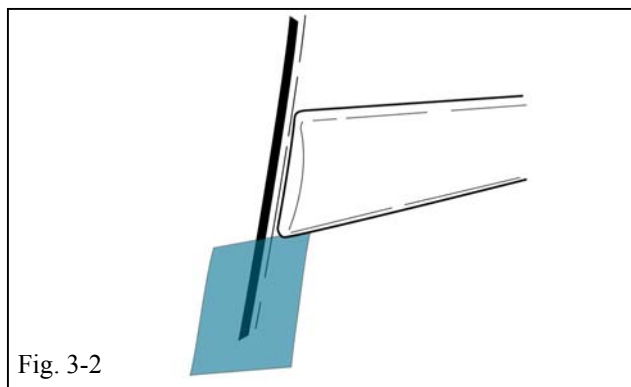
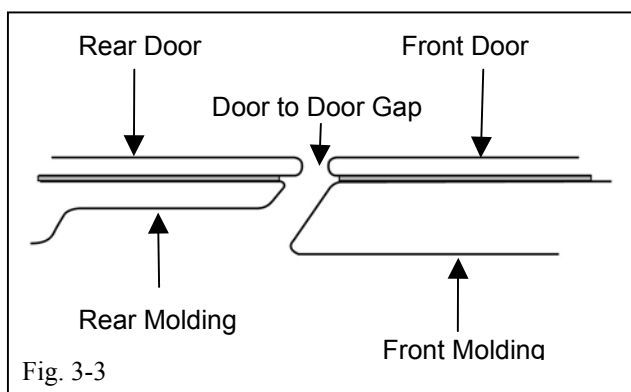
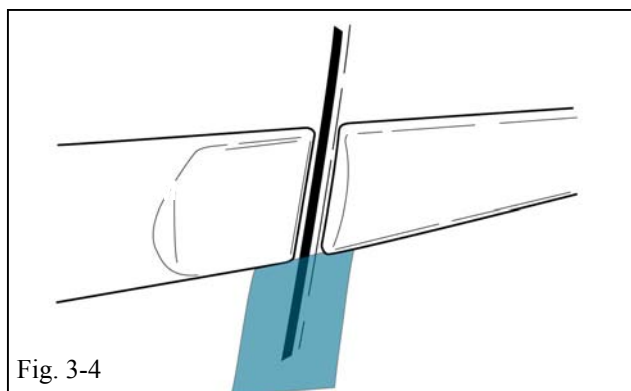

Fig. 3-2
Fig. 3-3
Fig. 3-4
- (b) Hold the molding about ½" from the surface of the front door and align the rear edge with the rear edge of the front door as shown in Fig. 3-2 & Fig. 3-3. The bottom edge of the molding is aligned vertically at the rear with the top edge of the vertical tape strip, while the center of the front tip end is aligned with the mark on the vertical piece of tape. Once the molding is properly aligned, press it to the door surface starting at the rear and working toward the front with a rolling motion keeping the front tip aligned with the tape mark. Do not allow both ends to contact and stick to the door before the center contacts.
- (c) Repeat steps 3-a and 3-b for the RH rear door molding as shown in Fig. 3-3 and Fig. 3-4.